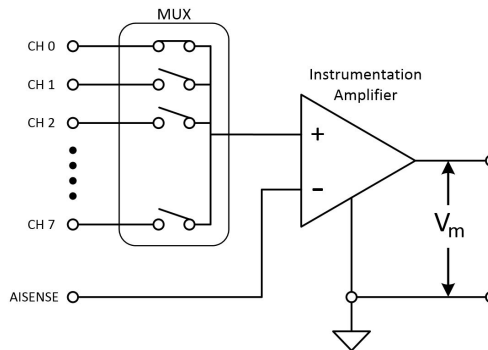

Figure 5. An NRSE instrument's common point is the voltage provided at the negative terminal of the instrument amplifier.
- **NRSE** instruments reference a common point; however, the common point is the voltage provided at the negative terminal of the instrumentation amplifier. In the NRSE example shown in Figure 5, the common reference is the SENSE line; therefore, the measured voltage is the potential difference between CH X and the voltage at the AI channel.